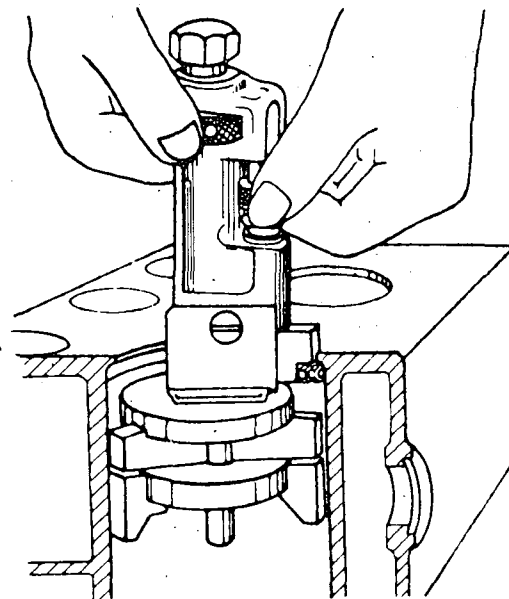

Fig. 2
- b) Adjust the tool to begin the cutting (fig. 2).